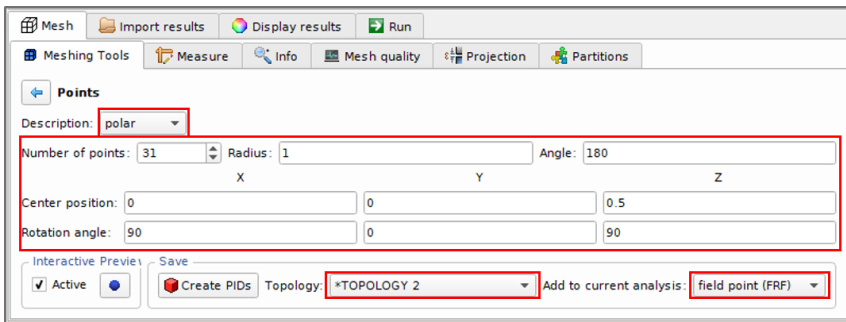

Figure 6.21: Create second series of field points
- In the *Toolbox*, access to "Mesh" → "Meshing Tools" → "Points" → "Polar"; enter the parameters shown in Figure 6.21;